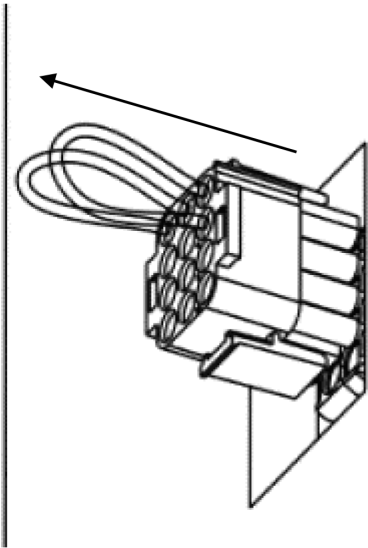

FIGURE 11 - REMOVE ECONOMIZER JUMPER PLUG
1. Remove the jumper plug from the factory installed economizer wire harness. The jumper plug is located on the partition panel in the return air compartment (see Figure 11).